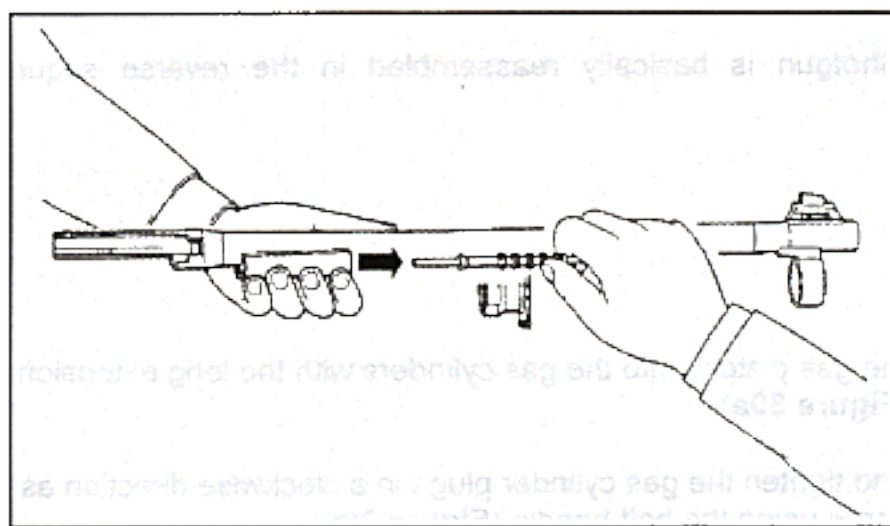

Figure 30. Removing the gas piston from the gas cylinder
- B. Remove the gas pistons from the front end of the gas cylinders (**Figure 30**).